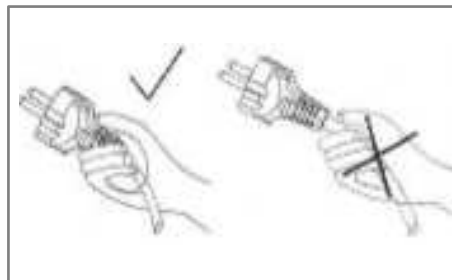

Figure 2
2. After each use, hold the power plug and pull it out from the power socket. Do not use force on the cord (as fig. 2).